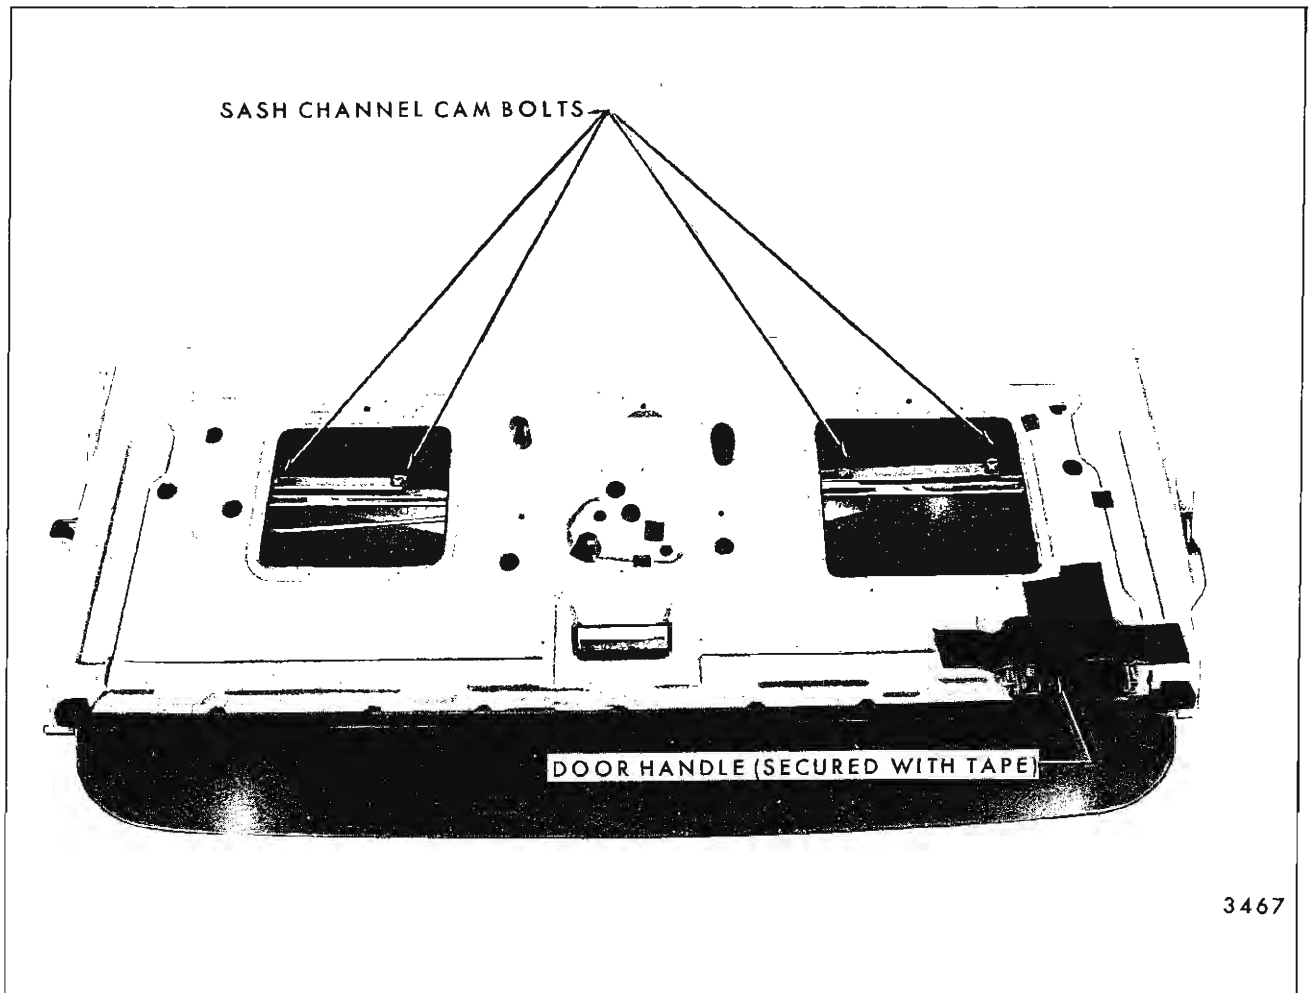

Fig. 9-4—Dual Tail Gate Glass Removal
3. Operate tail gate window to a point that sash channel cam attaching bolts are accessible through inner panel (Fig. 9-4) - See "NOTE" and "CAUTION".
**CAUTION:** With tail gate open and locks engaged (as explained in preceding note), the tail gate has been placed in a vulnerable position and could drop from the right lower lock if inside door remote handle were actuated. As a safety precaution, prior to manually locking either right or left upper locks, firmly apply body tape over inside door remote handle to render same inoperable (Fig. 9-4).
4. Remove right and left cam attaching bolts (Fig. 9-4). Slide cams free of regulator lift arm rollers and remove cams from tail gate.